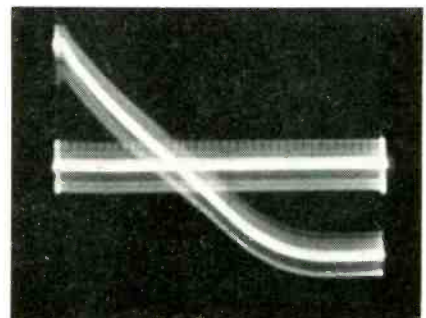

Fig. 9 — Stray pulse interference causing blurred scope display.
A. A typical situation of this kind is shown in Fig. 9. It is caused by stray